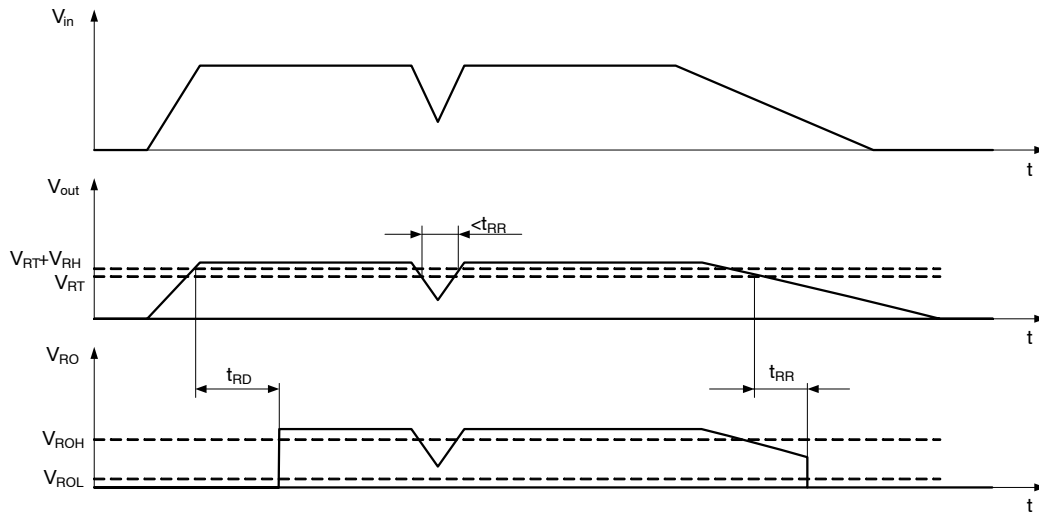

Figure 21. Reset Function and Timing Diagram
A reset signal is provided on the Reset Output (RO) pin to provide feedback to the microprocessor of an out of regulation condition. The timing diagram of reset function is shown in Figure 21. This is in the form of a logic signal on RO. Output voltage conditions below the RESET threshold cause RO to go low. The RO integrity is maintained down to V_{out} = 1.0 V. The Reset Output (RO) circuitry includes internal pull-up connected to the output (V_{out}) No external pull-up is necessary.